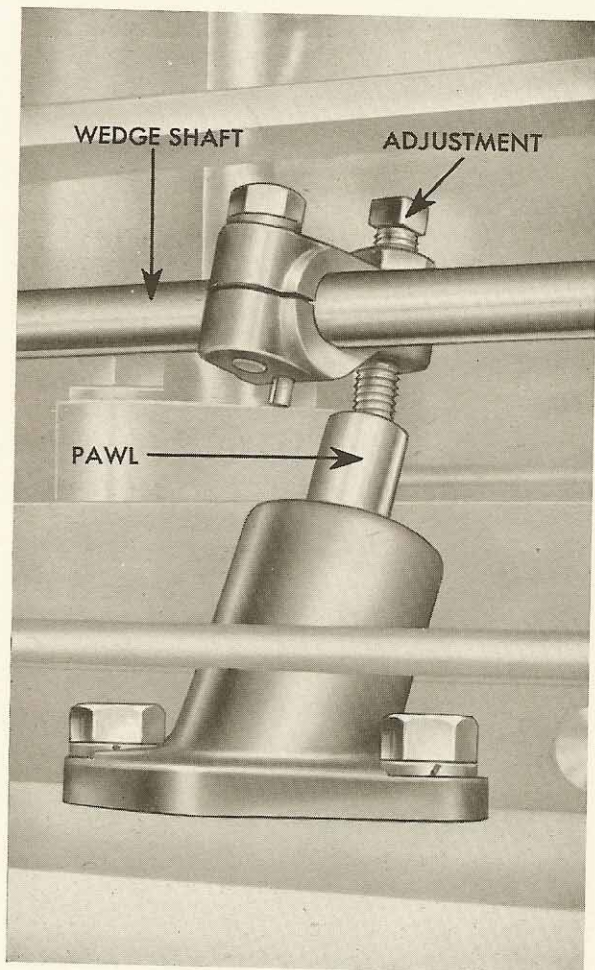

FIGURE 18-7
15. THE FUEL CUT-OUT: The fuel cut-out is shown in Figure 18-7. The adjustment of